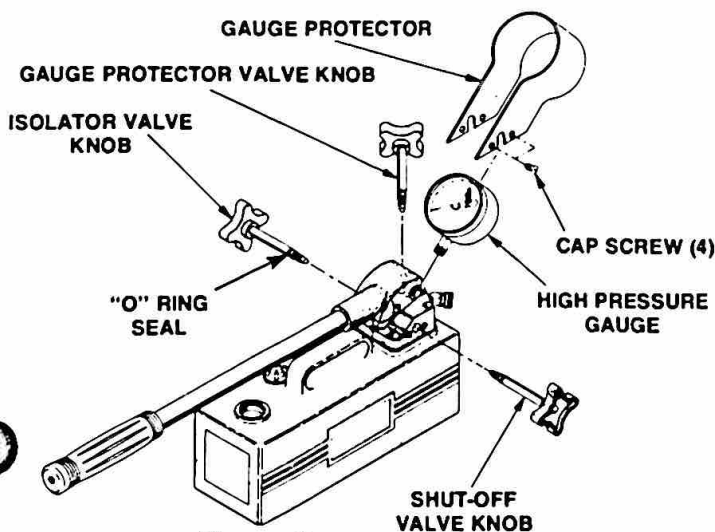

Figure 1
1. See Figure 1. Remove the four screws that hold the gauge protector to the tester head. Remove the gauge protector. **NOTE:** You don't have to remove the shut-off valve, gauge protector valve, or isolator valve because the gauge protector has slots in the valve areas. Once the screws have been removed, the gauge protector can be pulled upward off the valves.